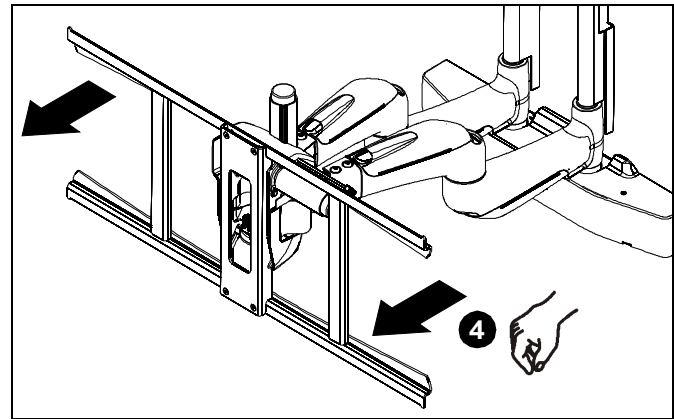

**Figure 15**
2. Using two 5/16-18 x 5/8" button head cap screws (CC), two 5/16" split lock washers (EE), and two 1/4" flat washers (DD) loosely secure top of PXR in PAC502. Secure screws at least three turns into PAC502. (See Figure 15)